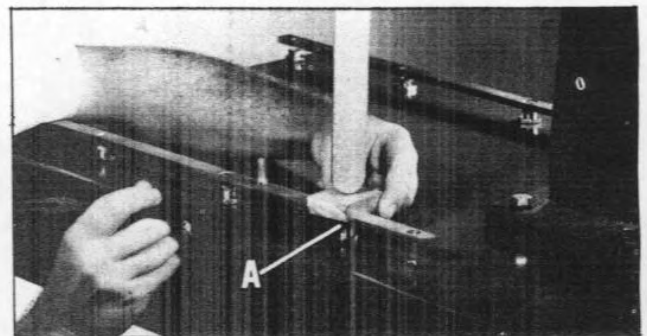

Fig. 13
7. Raise or lower the leveling strip by turning the leveling screw (A) until the wrench just touches the feeler gage, as shown in Fig. 13.